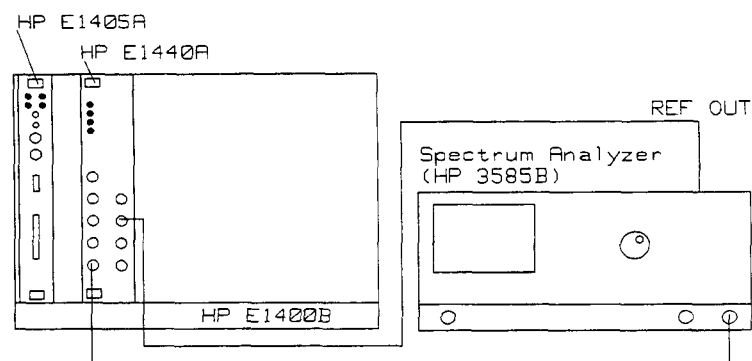

Figure C-4. Mixer Spurious Test Set-Up
1. Connect the HP E1440A signal output to the spectrum analyzer 50 Ω (RF) input and the HP E1440A REF INput to the analyzer 10 MHz reference output, as shown in Figure C-4.